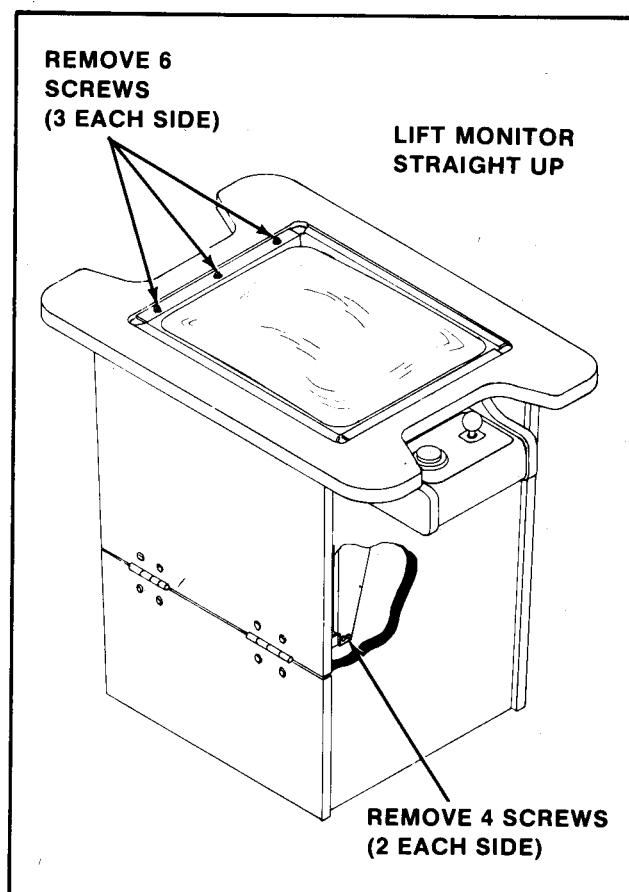

Figure 4-11 Removing Monitor — Cocktail
3. COCKTAIL TABLE MODEL: See Figure 4-11.
- Remove the screws holding the T.V. monitor chassis to the "L" by the door hinge(s). See Figure 4-11.
- Remove the screws which secure the T.V. monitor mounting brackets to the edges of the slot cut in the table top. See Figure 4-11.